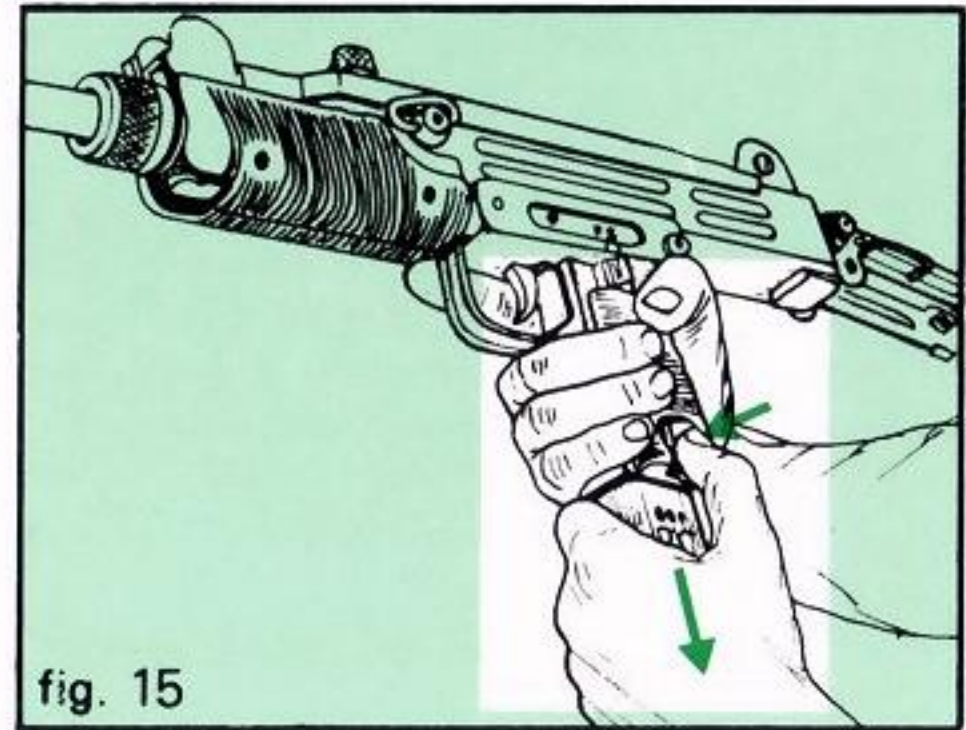

fig. 15
2. Depress magazine catch and remove magazine (fig. 15).